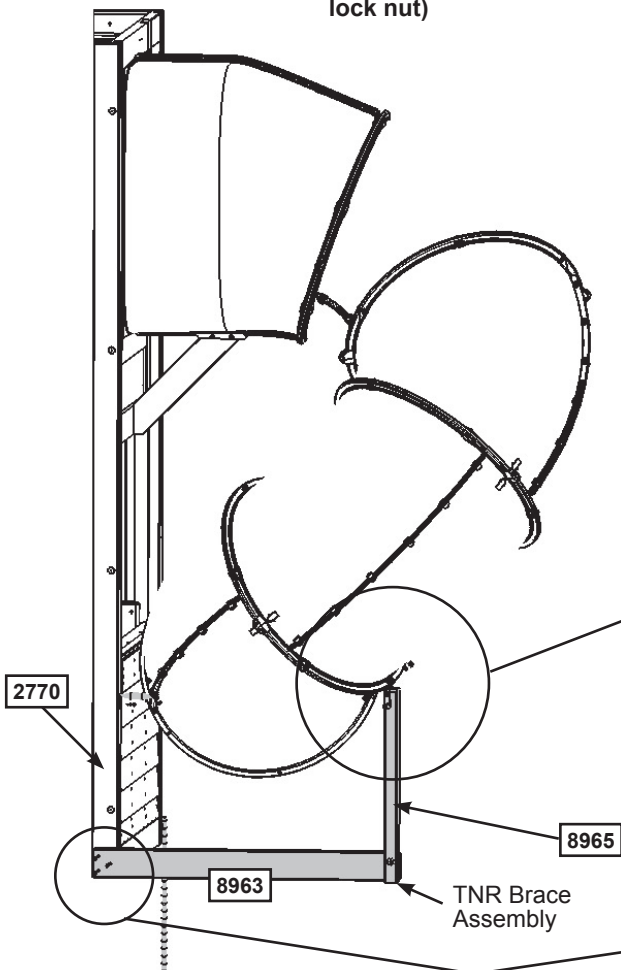

Fig. 39.2
- A:** Place 1 TNR4 Post Mount Clamp on either side of the Clamp Ring so that the bent tops clip in behind the Clamp Ring. (fig. 39.2)
- B:** Insert the TNR4 Post Mount Base in between the 2 Post Mount Clamps and screw all pieces together using 1 1/4 x 14.5mm Pan Head Bolt and Square Nylock Nut. (fig. 39.2)
- C:** Attach TNR4 Post Mount Base to (8965) TNR Upright, pre-drill with a 1/8" drill bit then attach with 2 (S6) #12 x 1" Pan Screws. (fig. 39.2)